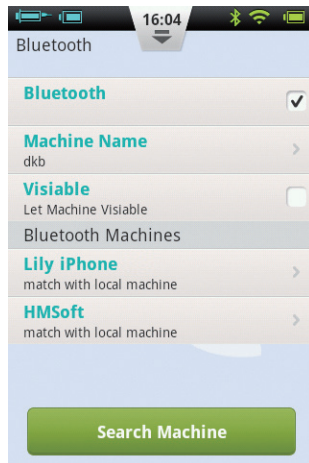

Figure 115
**4 Search for Devices:** Press this button to search for other Bluetooth devices that are within range. A list of devices will appear in the Bluetooth Devices section (Figure 115). The status of the